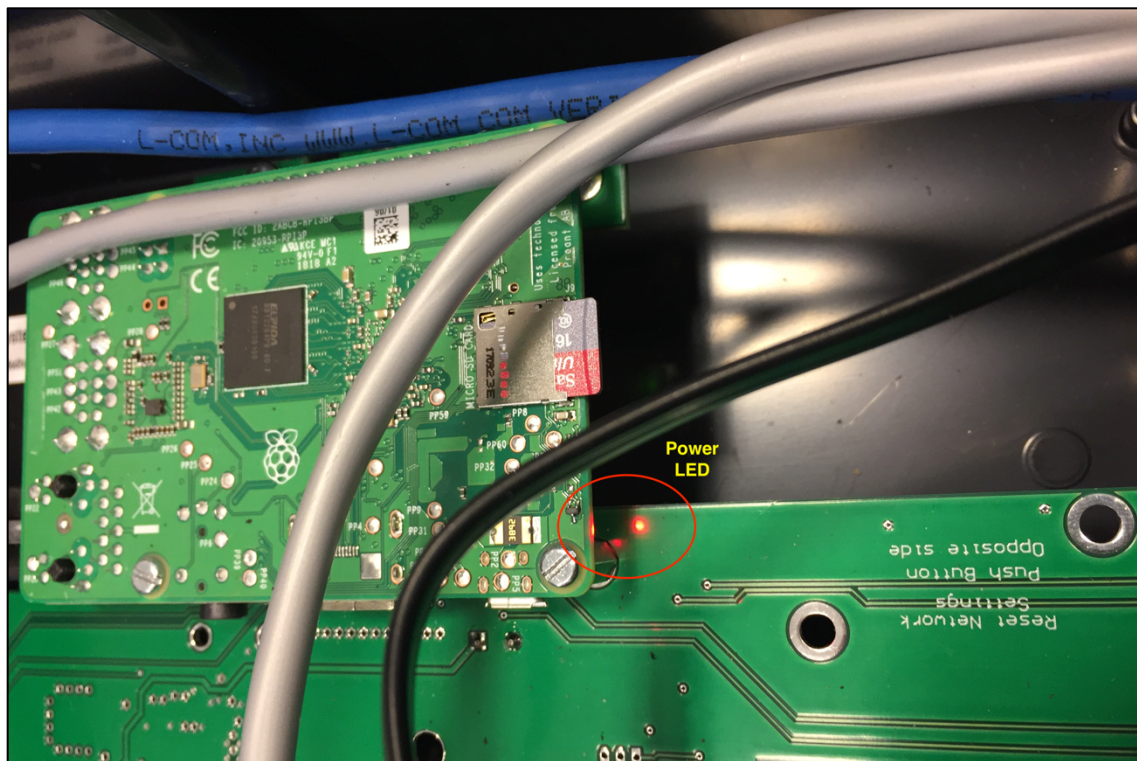

Figure 2: Modbus Interface Adapter Power LED
- Remove the six screws from the cover of the adapter then remove the cover. Turn the breaker on the power feed circuit to the On position and verify that the red LED on the processor board is On. If the red LED is not On, turn the power feed circuit breaker to the Off position, swap the black and white wires at the DC power source, then turn the breaker to the On position. The red power LED will now be On. See Figure 2. Reinstall the cover.